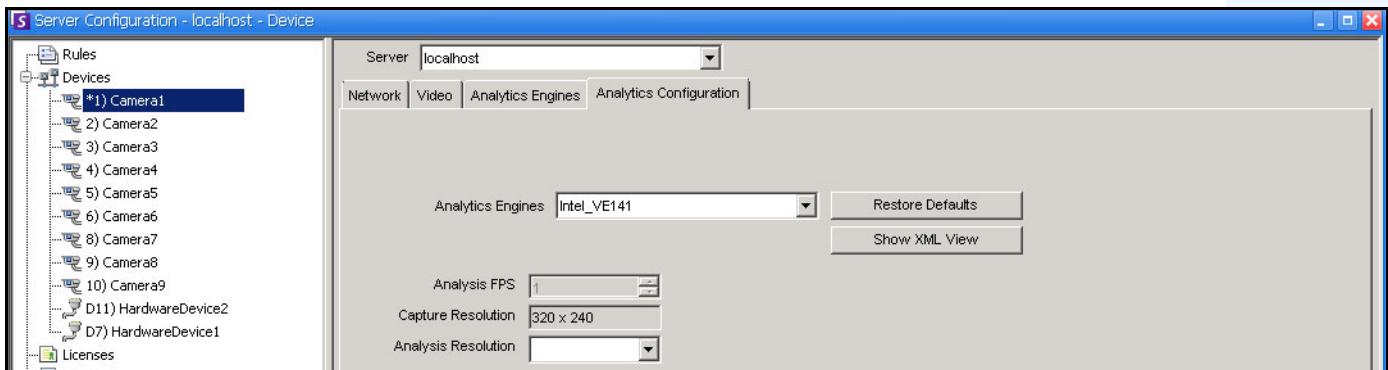

Figure 7. Analytics Configuration tab for VE141
5. Click the **Analytics Configuration** tab (Figure 7).